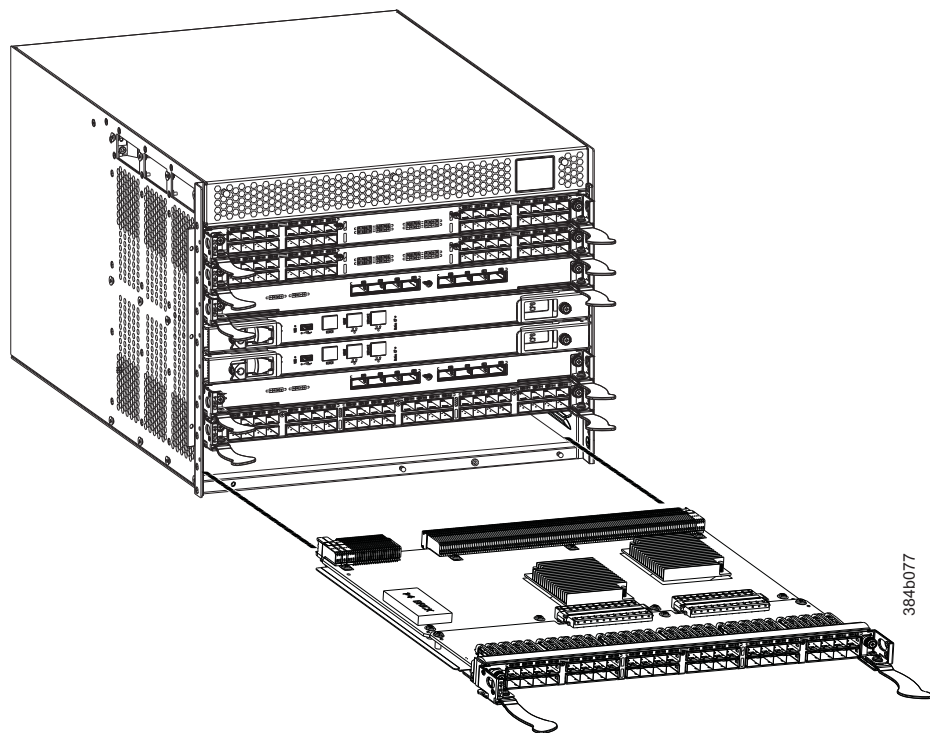

Figure 29. Port and application blade removal and installation (FC16-48 port blade shown)
8. Unscrew the two thumbscrews from the left and right ejectors on the blade using the Phillips screwdriver. Unscrew the left thumbscrew until it pops out. This initiates a hot-swap request. Adjust the ejectors to the open position (Figure 29),
10. Open the ejectors by pulling them toward the center of the blade face. Pull the blade out of the chassis using the ejectors (Figure 29).